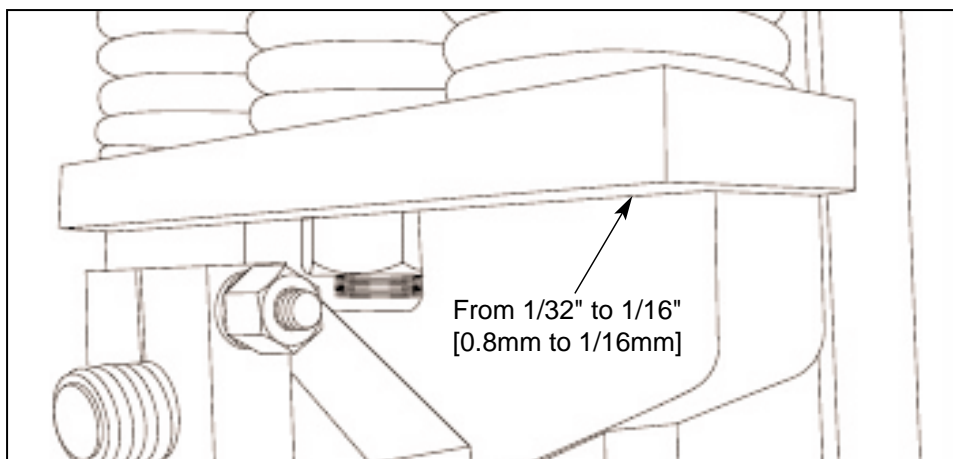

Figure 5.37 SPRING OPENING.
- 5.9.2 The spring opening should be between 1/32" [0.8mm] and 1/16" [1.6mm] maximum (see figure 5.37). This is all that is required to make most units on an ULTRAPAC II.